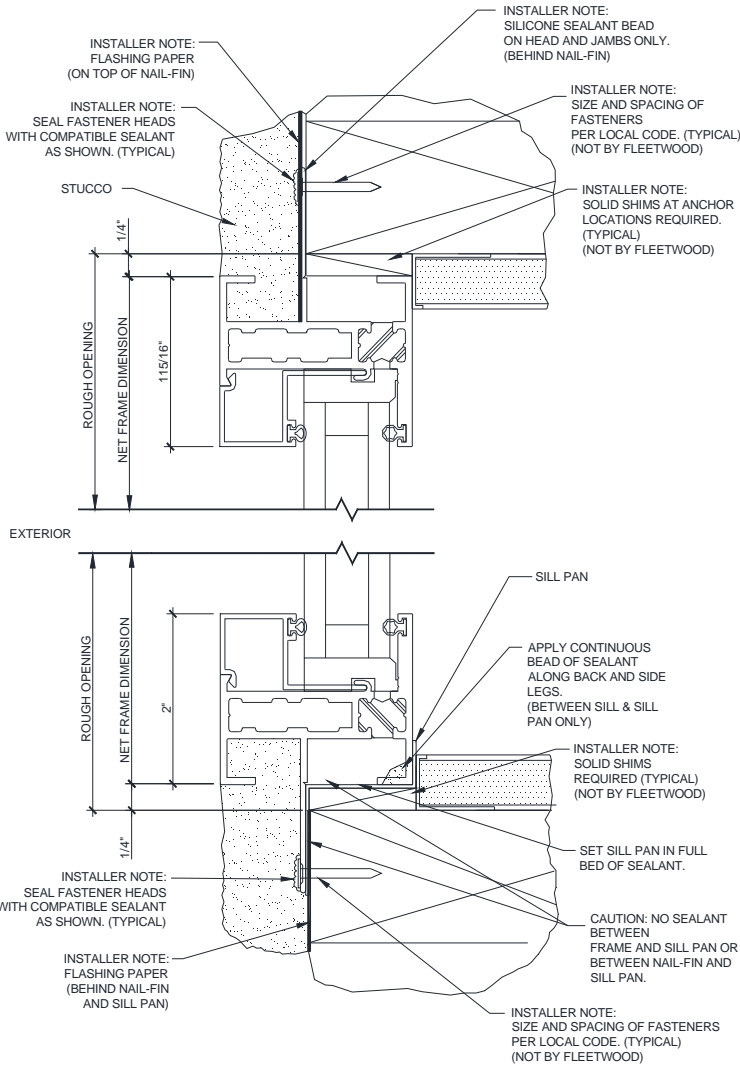

Figure 8:
- Apply a continuous bead of sealant along the back and side legs between the sill and sill pan (Figure 8, page 7) and insert the frame into the opening.